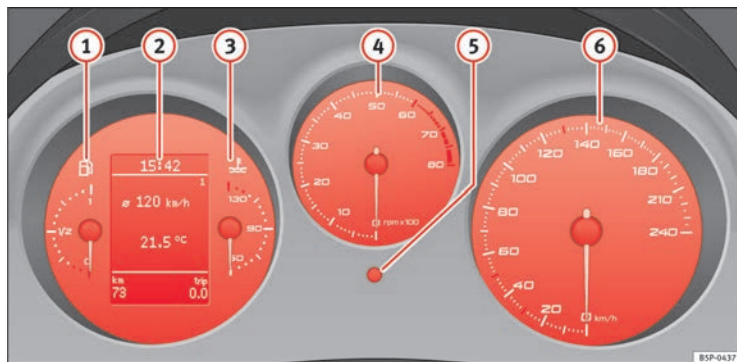

Fig. 32 Detailed view of the dash panel: instrument panel
The start of the red zone ⇒ page 57, fig. 32  indicates the maximum engine speed operating at service temperature. However, it is advisable to change up to a higher gear, move the selector lever to D or lift your foot off the accelerator before the needle reaches the red zone.
- Turn the setting knob ⇒ page 57, fig. 32  clockwise until the first “click” to set the hour. The hour will flash. To change the hour, press the button.